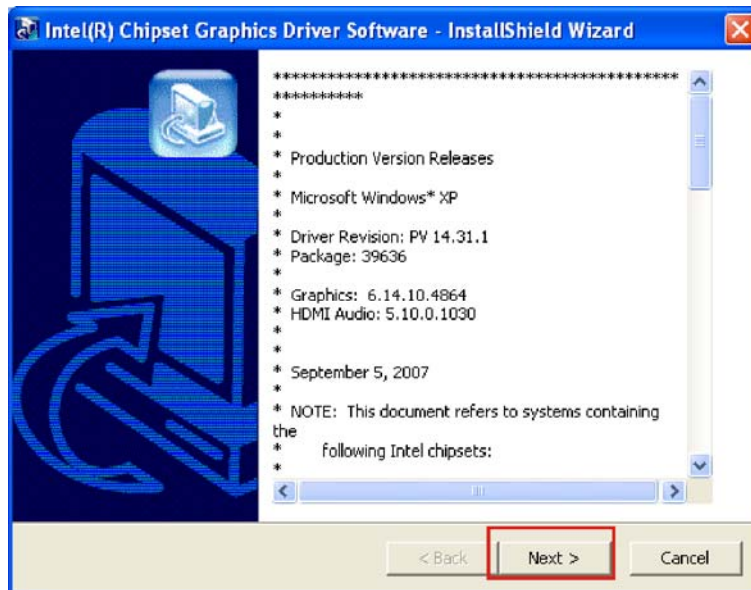

Figure 7-9: Graphics Driver Readme File
Step 4: The version information file appears (**Figure 7-9**).